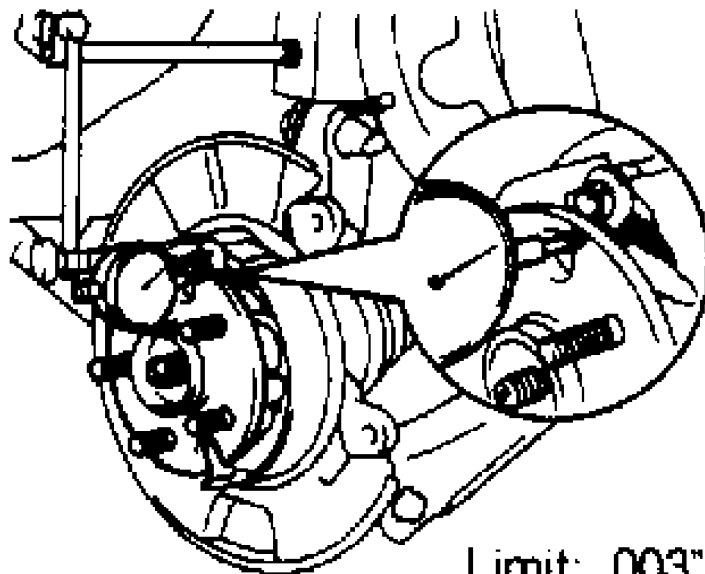

Fig. 5: Checking Axle Hub & Bearings
2) Check hub bearing end play and axle hub runout. See Fig. 5. If bearing end play is greater than .002" (.05 mm), replace bearing. If hub runout is greater than .003" (.07 mm), replace hub. Apply parking brake and remove bearing lock nut. Release parking brake. Remove parking brake assembly and cable. Remove rear speed sensor (if equipped).